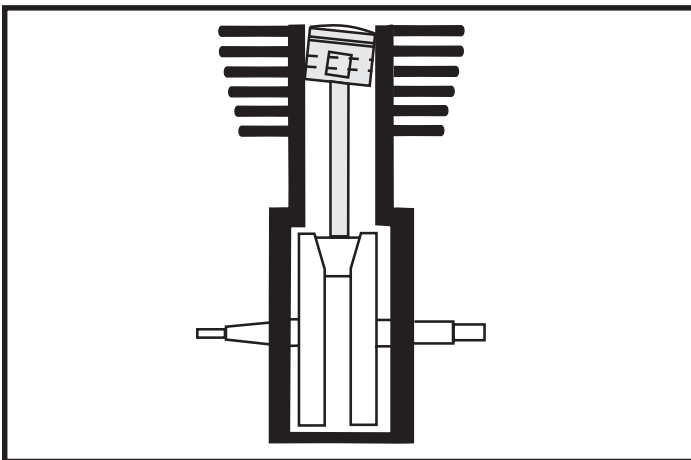

Figure 7
- Move piston towards driveside of engine and repeat Step C. If inaccuracies are present due to machining variations in cases, cylinders or pistons, top land of piston deck will appear closer to cylinder wall at one point around circumference. This means that piston is cocked in cylinder bore and can be corrected by bending rod in opposite direction. **Figure 7** shows an exaggerated side view of this condition.